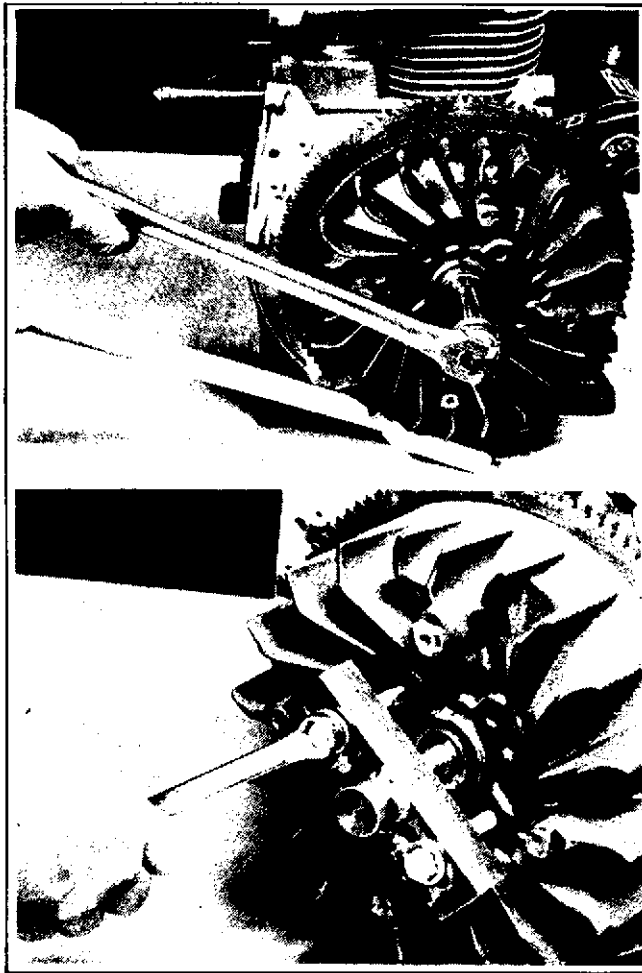

Figure 7-1. Removing the Flywheel
3. Remove the blower housing and flywheel. Use a strap wrench to hold the flywheel when loosening the flywheel nut. Use a flywheel puller to extract the flywheel from the crankshaft (see Figure 7-1).